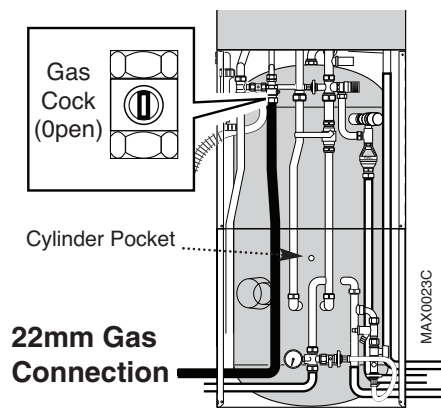

Fig. 9a
8. Route the sensor cable behind the cylinder pipes and insert end 'B' fully (approx. 310mm) into the cylinder pocket (Fig.9a).
2.3 Connect the Gas Supply (Fig. 9a)